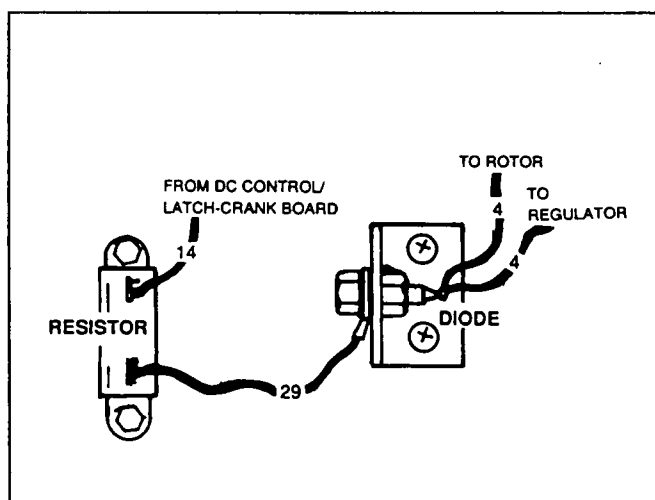

Figure 3. The Field Boost Circuit
See Figure 3. During startup and running operations, the DC control/latch-crank circuit board (in the generator control console) delivers 12 volts DC to the rotor windings, via Wire No. 14, a field boost resistor (R2), Wire No. 29, a field boost diode (D1), Wire No. 4, and the brushes and slip rings.
2. Gain access to the interior of the generator control console. On the interior floor of the console, locate the field boost resistor (R2) and the field boost diode (D1). See Figure 3.